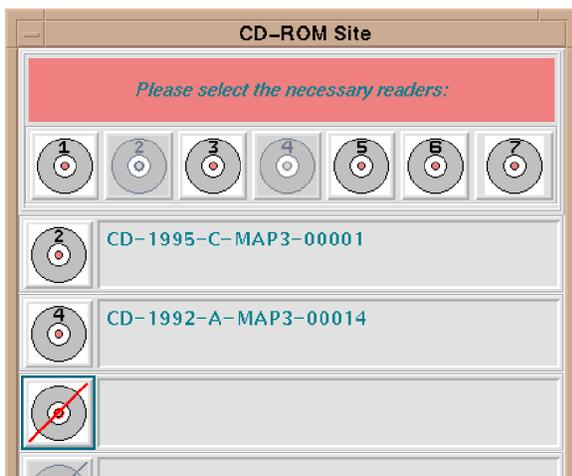

Fig. 78 — **CD-ROM Site Window**: deleted one CD reader from the list (#3)
- 5) If any of the listed CDs is not required, click (with middle mouse button) and drag that CD's number from the list to the Trash Can at the bottom of the window. Any CDs that were listed below the deleted CD will be bumped up to fill in the list (Fig. 78).